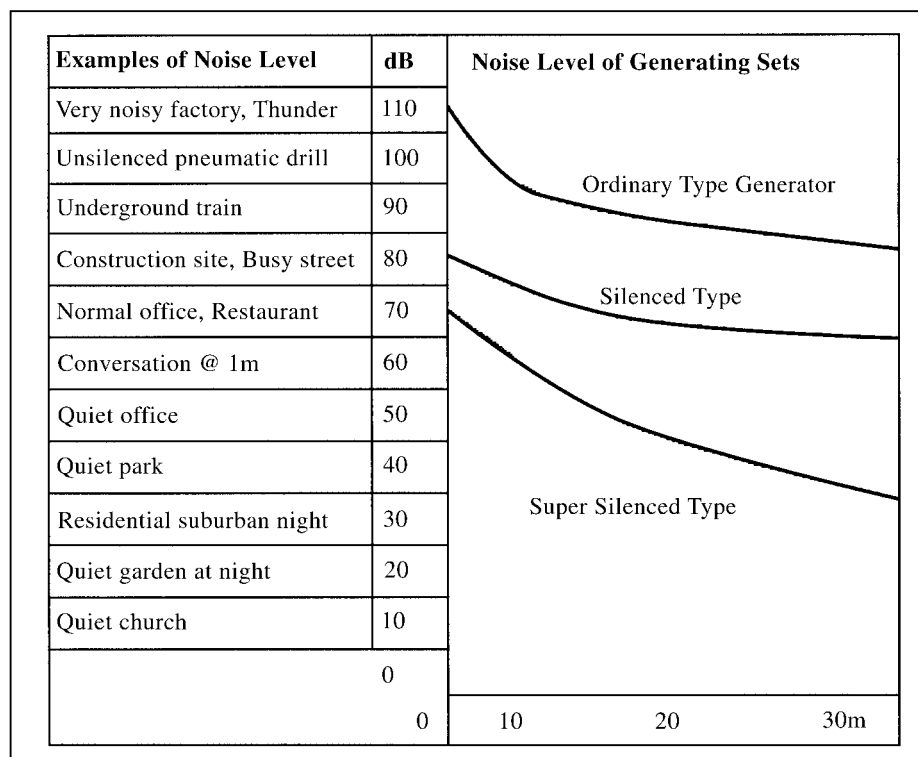

Fig F18
The standard enclosures are designed to give a noise reduction of 15 to 30 dB(A) and relate to the two standards of silencing produced by Cummins Power Generation ie: (see Fig F18)